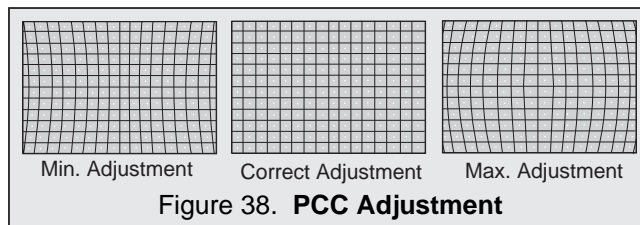

Figure 38. PCC Adjustment
2. Adjust "PCC" DATA so that the 1st line and 3rd line make a good balance (See Fig. 38).